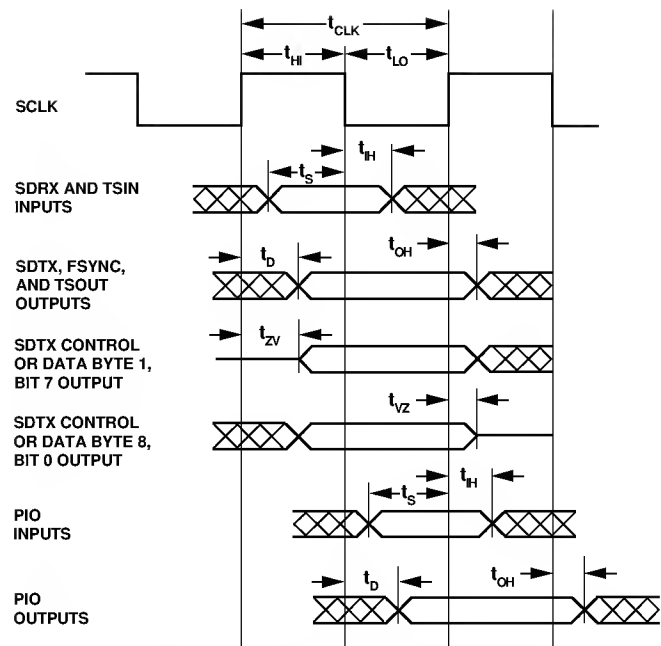

Figure 7. AD1849K Timing Parameters
The PIO pins are read on the rising edge of SCLK five (5) SCLK periods before the first PIO bit is transmitted out over the serial interface. In Data Mode, the PIO pins are sampled as Bit 20 starts to be driven out. In Control Mode, the PIO pins are sampled as Bit 36 starts being driven out. Timing parameters are as shown in Figure 7; PIO pin input data is relative to the rising edge of SCLK. (Note that only the PIO pins are read on SCLK rising edges.)